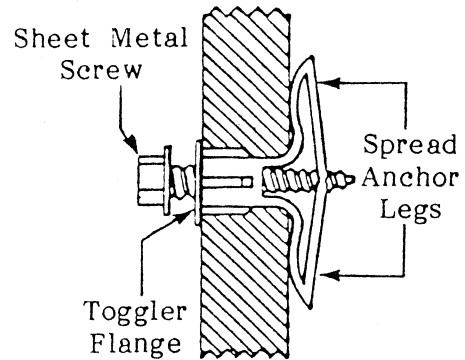

FIGURE 6
01.23 Thread the screws into the small holes in the center of the togglers. Leave some clearance between the bottom of each screw head and the mounting surface (Figure 6).